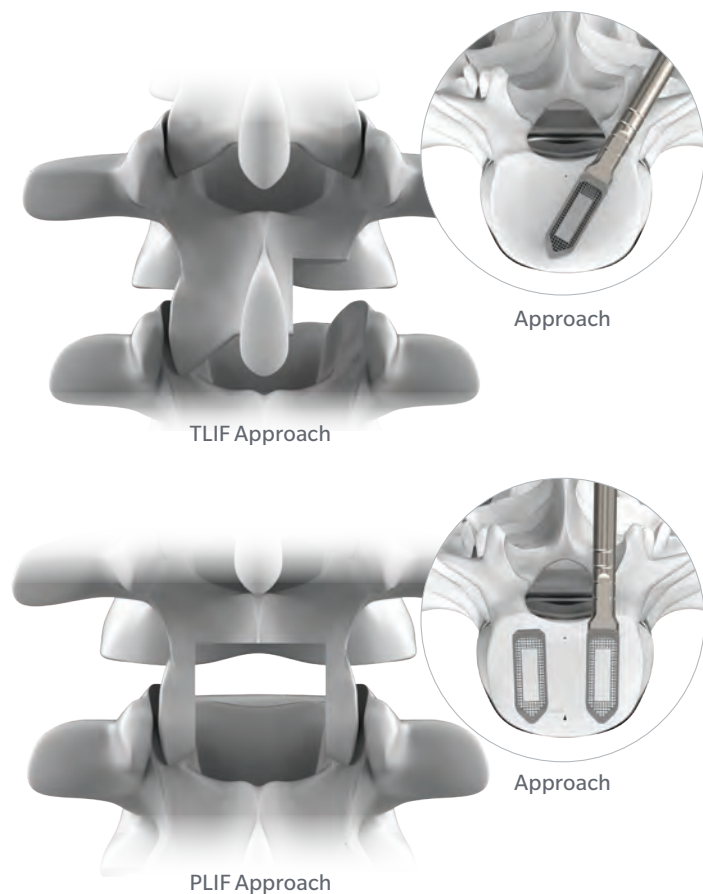

Figure 4
- Utilizing osteotomes and rongeurs, a small section of the lamina and facet(s) should be removed to create an appropriately sized bony window for access to the targeted disc space (Figure 4).